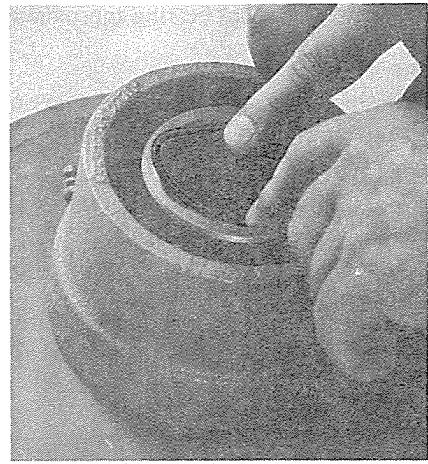

Figure 17
3. Moisten the remaining o-ring with oil. Spread oil around the bore of the adjustable flange and the outboard o-ring groove. Place the new o-ring in this groove as shown in Figure 17.